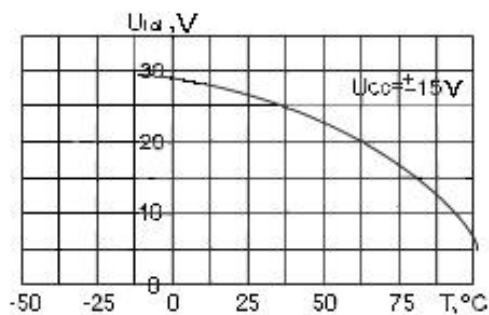
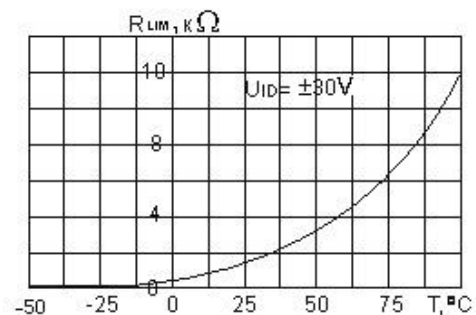

Fig. 3 Dependence of the limiting input differential voltage on the ambient temperature
Fig. 4 Dependence of the minimum allowable input limiting resistance on the ambient temperature
2) In the range of operating temperatures up to 30°C , the absolute value of the voltages at any input should not exceed the value of the voltage of the power sources. At elevated temperatures, the maximum permissible U_{ID} decreases according to the dependence in Figure 3 or external current-limiting resistors at the inputs are used according to the dependence in Figure 4.